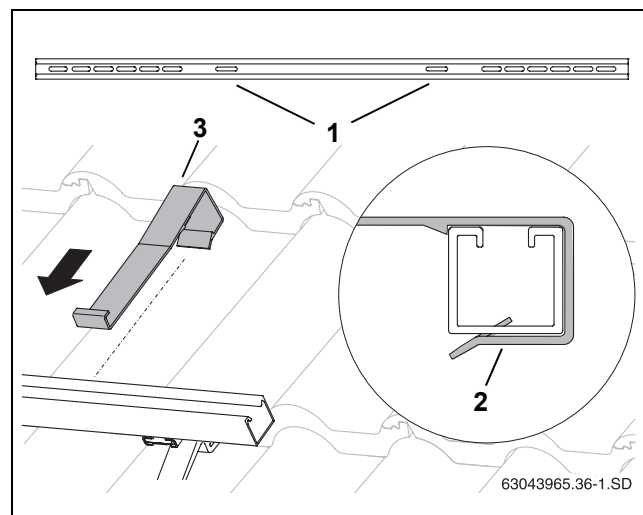

Fig. 32 Attaching anti-slip protection
- Push each anti-slip protector (Fig. 32, [3]) into the innermost slotted holes (Fig. 32, [1]) over the profile rails until it clicks into place (Fig. 32, [2]).